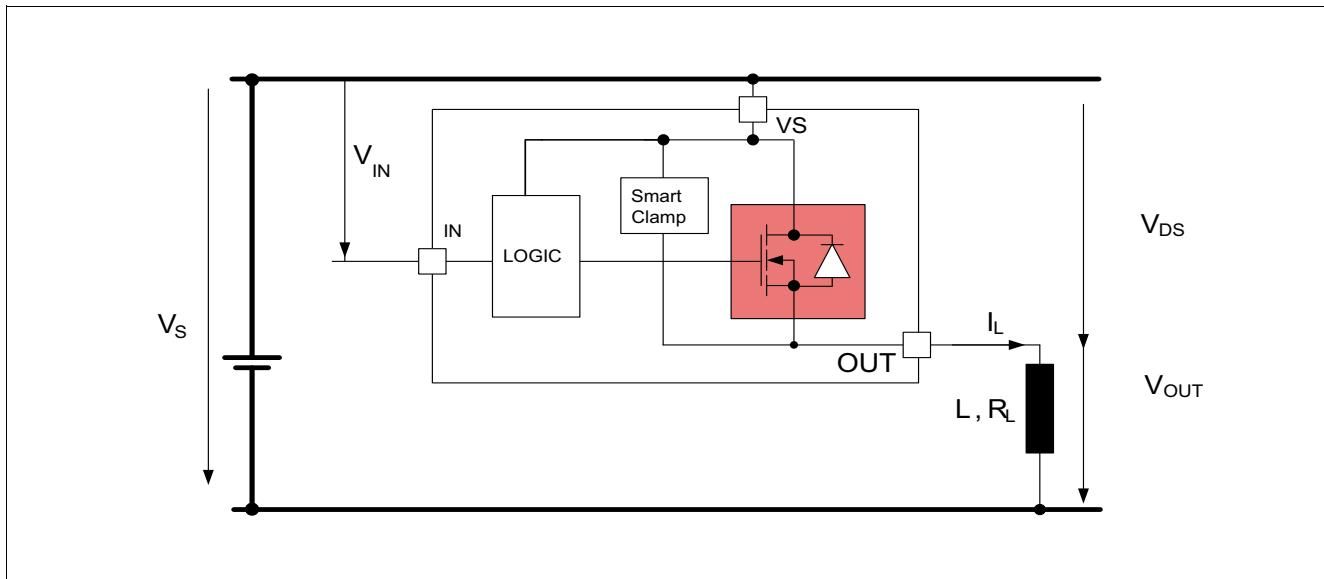
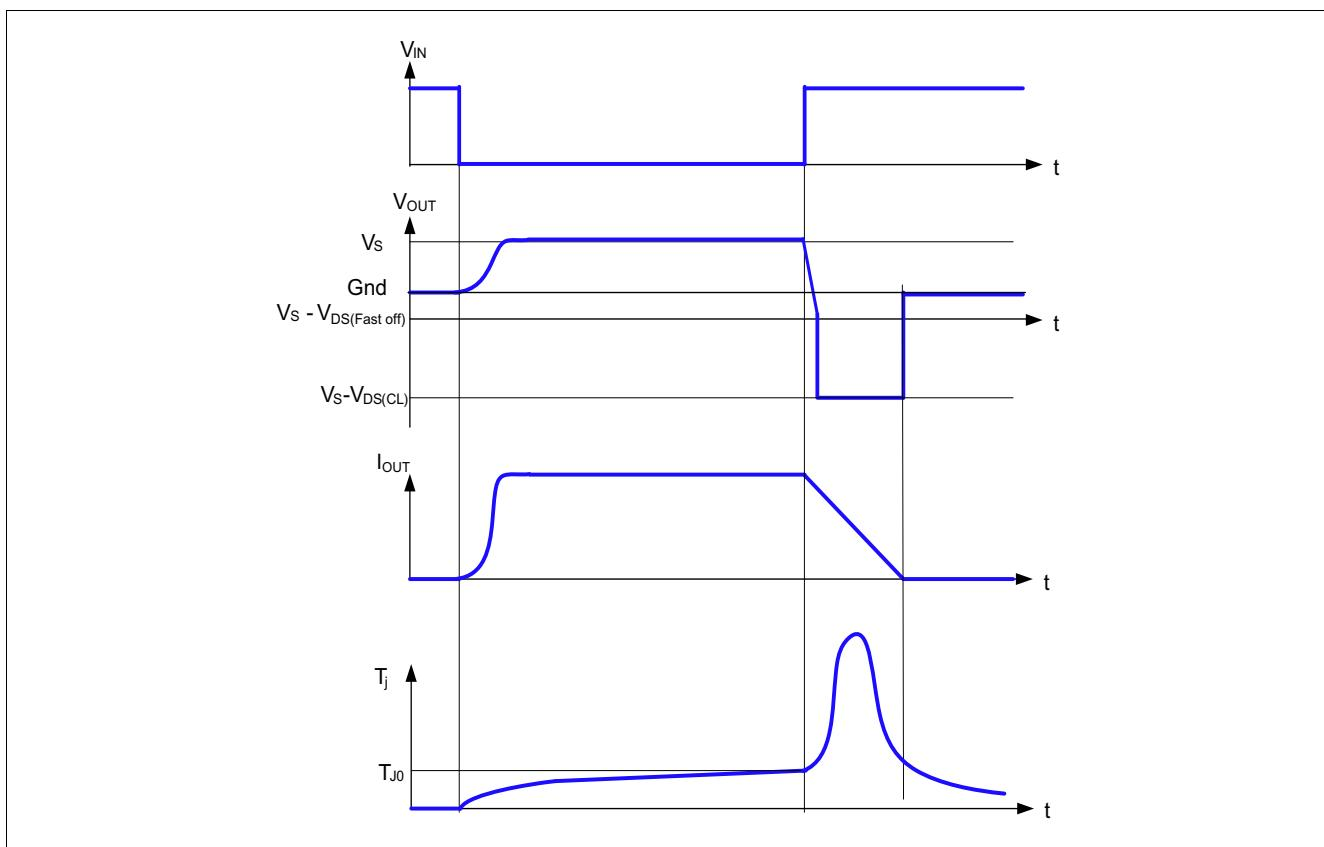

Figure 5-2 Output Clamp
Figure 5-3 Switching an Inductance
When switching OFF inductive loads with high side switches, the voltage V_{OUT} drops below ground potential, because the inductance intends to continue driving the current. To prevent the destruction of the device due to high voltages, there is a Infineon® SMART CLAMPING mechanism implemented that keeps negative output voltage to a certain level ($V_S - V_{DS(CL)}$). Please refer to Figure 5-2 and Figure 5-3 for details. Nevertheless, the maximum allowed load inductance remains limited.
- The device is commanded off by applying $V_{\text{IN(L)}}$ at the IN pin. During the switch OFF operation the OUT pins' voltage in respect to VS pin drops below $V_{\text{ds(fast off)}}$. See Figure 5-3.